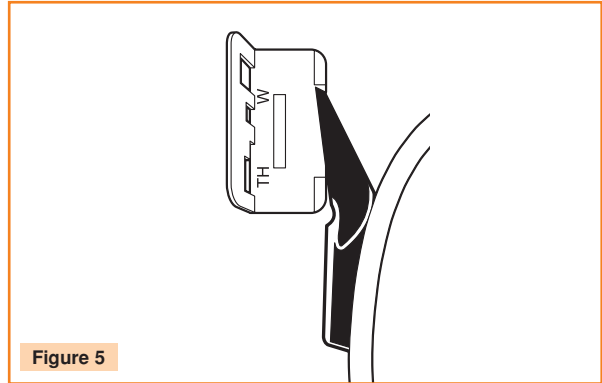

Figure 5
6. Check gaff profile/contour with Klein gaff gauge. For pole and tree gaffs, place the side of the gaff along the front edge of the gauge with the gaff point resting in the notch. The point should follow the configuration of the gauge to assure the proper “rounding off” of the tip within 1/4” (6.4 mm) of the point. (See Fig. 5)